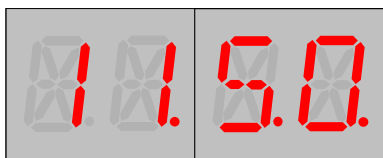

Figure 8e: New stored Bit value.
5. UP and DOWN will move the Bit value between 0 and 1. Press SELECT to store the displayed value. See **Figure 8e**.